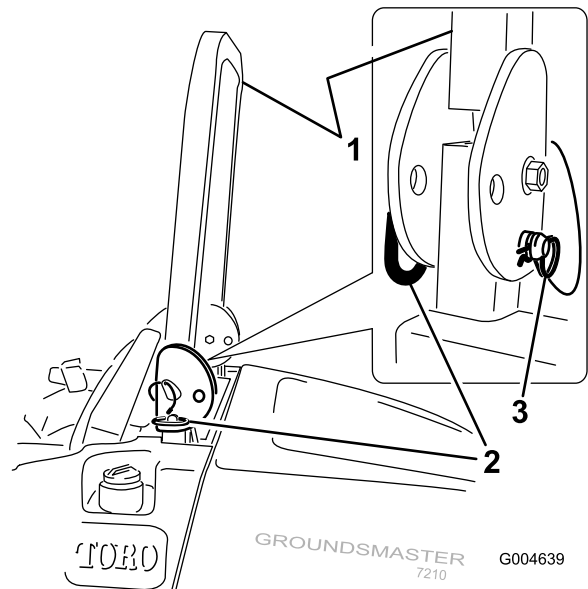

Figure 10
1. To lower the roll bar, remove the hairpin cotters, push the roll bar forward against the springs, and remove the 2 pins (Figure 10).
3. Install the 2 pins and secure them with the hairpin cotter pins (Figure 10).
4. To raise the roll bar, remove the hairpin cotter pins and remove the 2 pins (Figure 10).
5. Raise the roll bar to the upright position and install the two pins and secure them with the hairpin cotter pins (Figure 10).